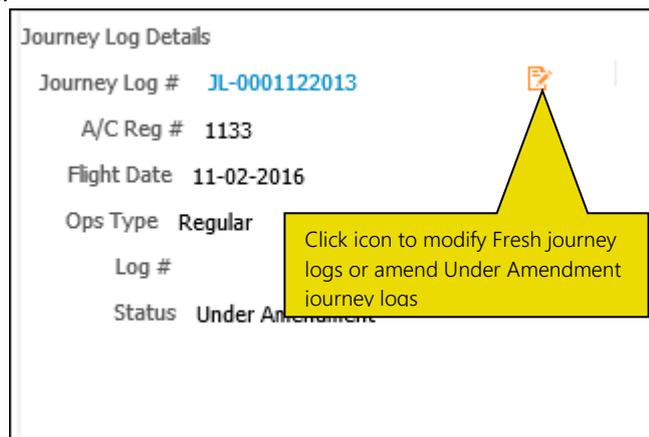

Figure 2.6: The Journey Log overview
1. Click the required journey log in the **Journey Log List** multiline to display its details in the Journey Log Overview section. See Figure 2.6.